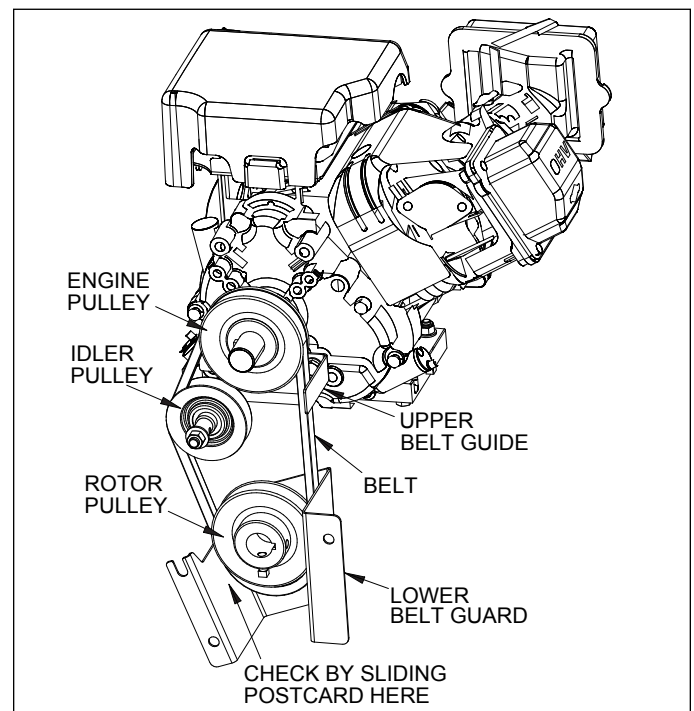

Figure 5.4 - Belt Guide Adjustments
7. From underneath, check the alignment of lower belt guard with a post card (Figure 5.4). With the clutch engaged, there should be enough room between the belt and the side of the guard for the card to slide along the belt. With the clutch disengaged, the card should not be able to slide. Adjust if necessary.